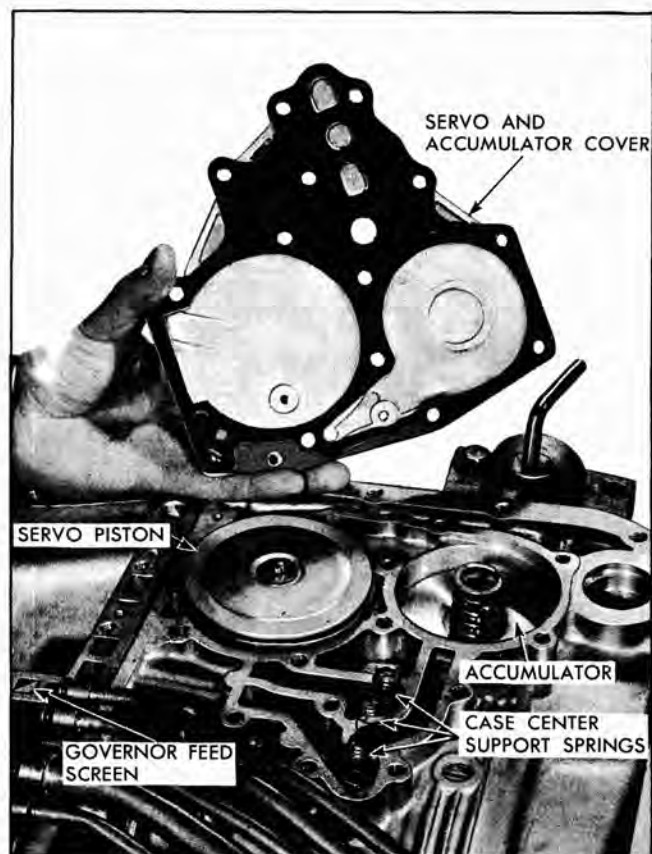

Fig. 43 Removing Servo and Accumulator Cover
13. Remove manual valve from control valve assembly and governor feed screen from rear bearing retainer (Fig. 43).
15. Remove the servo and accumulator cover (Fig. 43).